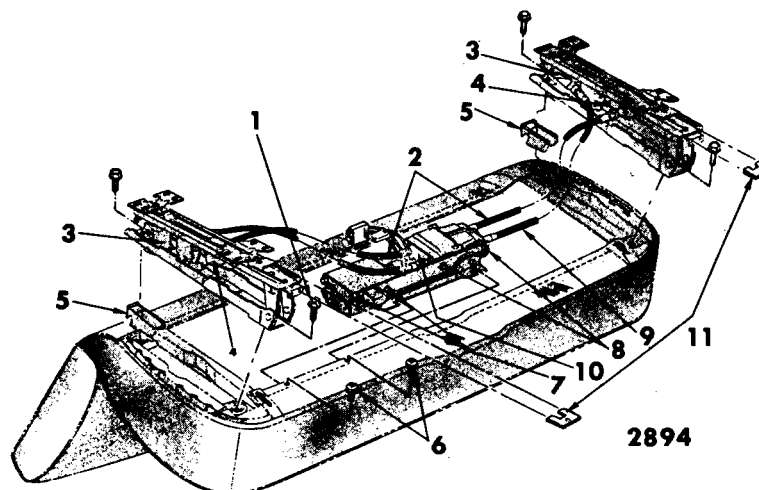

Fig. 15-8—Front Seat Assembly - Four-Way Tilt - Buick "B, C & E" Styles
3. Detach power drive cables from gear nuts of adjuster to be removed (Figs. 15-8, 15-9, 15-10 and 15-11).
4. Remove adjuster-to-seat bottom frame front and rear attaching bolts and remove adjuster from seat assembly (Figs. 15-8, 15-9, 15-10 and 15-11).
5. To install seat adjuster assembly, reverse removal procedure. On seats with adjuster upper track covers, make sure track covers are installed between adjuster and seat frame (Figs. 15-8, 15-9, 15-10 and 15-11). Check operation